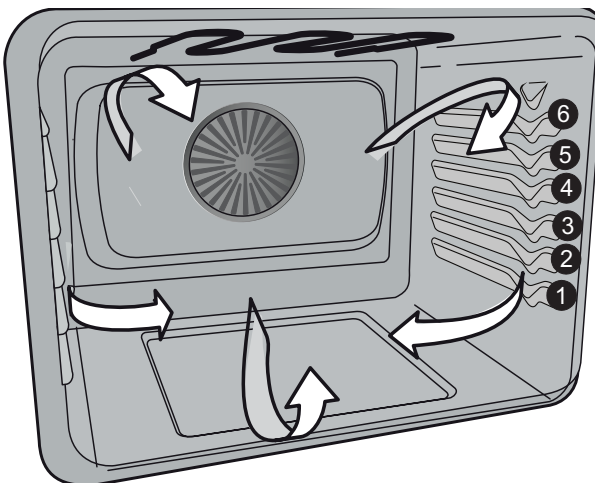

Figure 5: Pan positions
- Always place food in center of the oven on rack position 2 (Glide rack) or 3 (Flat rack) in the upper oven, or 3 (Flat rack) in the lower oven. (Figure 5).